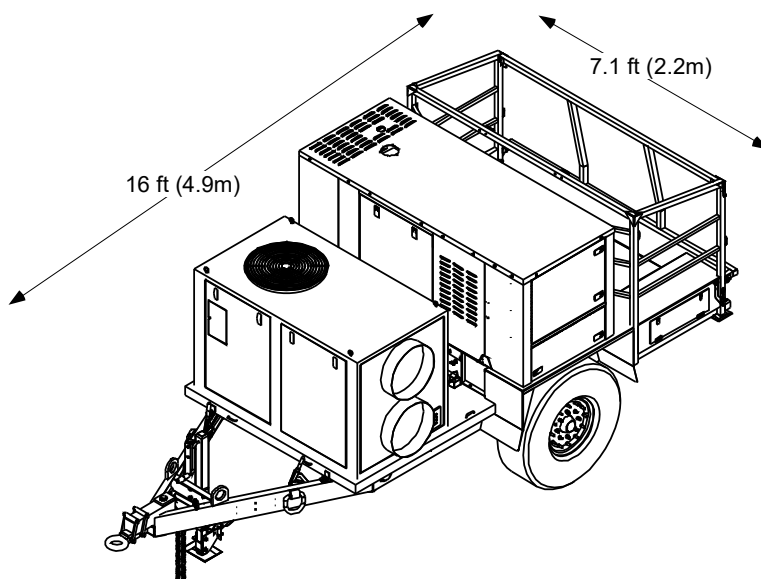

Figure 1. HP-2C/185 System Deployment Footprint.
- Level with minimum clearing of 16 feet (4.9 meter) x 7.1 feet (2.2 meter) for deployment and operation of trailer, and any associated equipment (Figure 1).